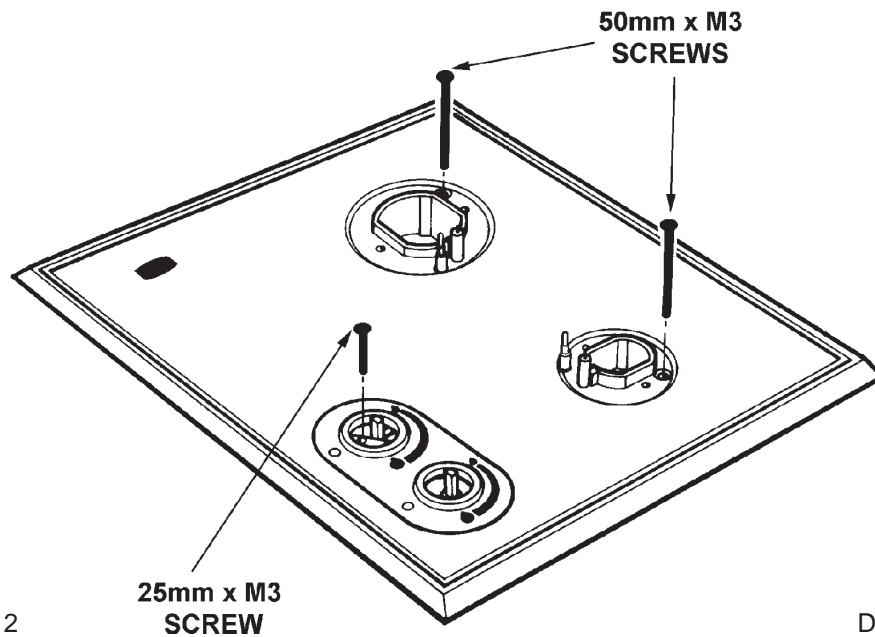

Fig. 2
5. Remove the three fixing screws which secure the hob surface plate (See Fig. 2).